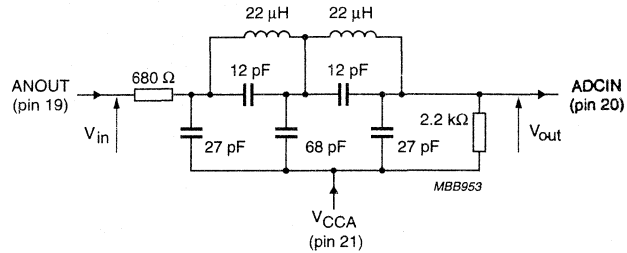

Fig.12 Example of lowpass filter for Y and C signals.
- (1) It is recommended to decouple V_{CCO} through a 22 Ω resistor especially when the output data of TDA8709A interfaces with a capacitive CMOS load device.
- (2) See Figs 12 and 13 for filter examples.
Note to figures 12 and 13